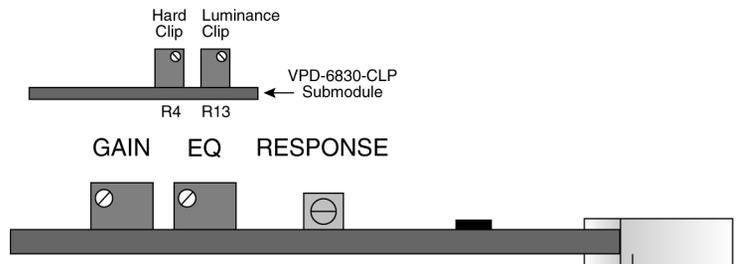

Figure 8-4. VPD-6830-CLP Card-Edge View
Turn the potentiometer Clockwise to Increase the gain. *See* Figure 8-4 on page 71.
Turn the potentiometer clockwise to obtain more equalization. *See* Figure 8-4 on page 71.
*See* Figure 8-4 on page 71.
7. Adjust the **Luminance** clip using the **R13** multi-turn potentiometer located on the card edge of the submodule card. *See* Figure 8-4 “VPD-6830-CLP Card-Edge View” on page 71.